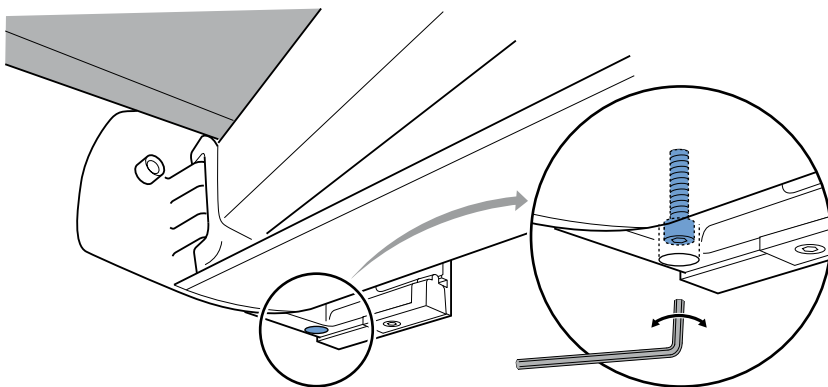

fig. 6.1 Location allen bolt left
2. The slope of the awning can be determined with the help of an allen bolt which can be found on the left and right beneath the mounting bracket. View figure 6.1.